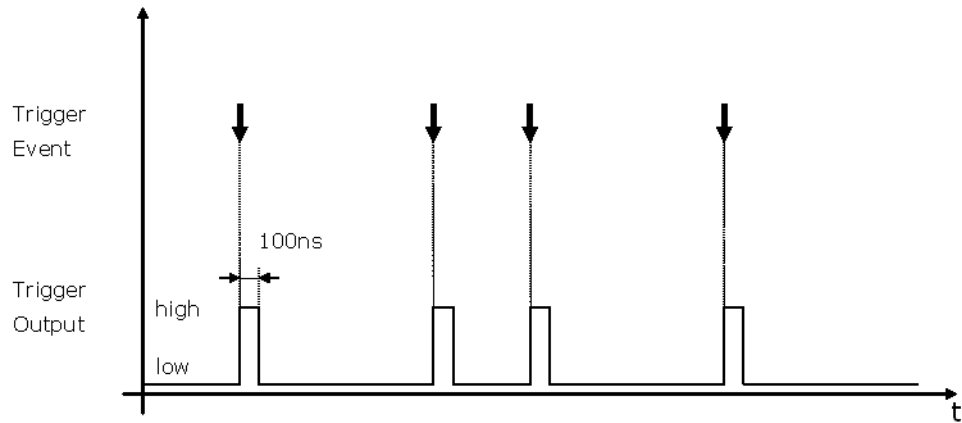

Figure 81 Automatic Pulse Mode
- *Automatic Pulse Mode* generates a 100 ns wide high pulse on the *Triggerout Pin* each time the trigger event occurs as shown in Figure 81.